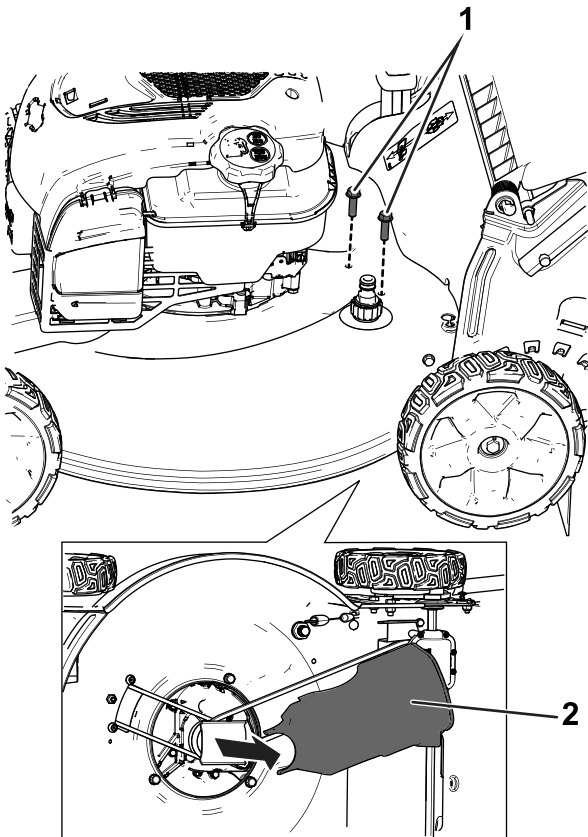

Figure 3
7. Remove and retain the lower, rear belt cover and corresponding bolts (Figure 3).